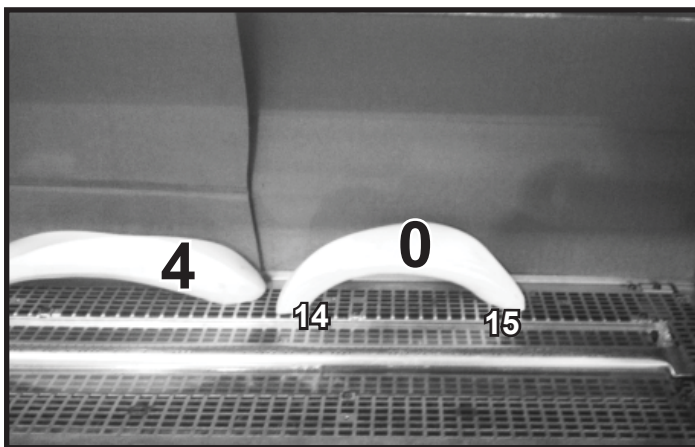

Figure 10. (SRV2310-750)
11. **(SRV2310-750):** Install Log #0 onto shoulder screws #14 and #15 by aligning the log placement holes with the shoulder screws. See Figure 10.